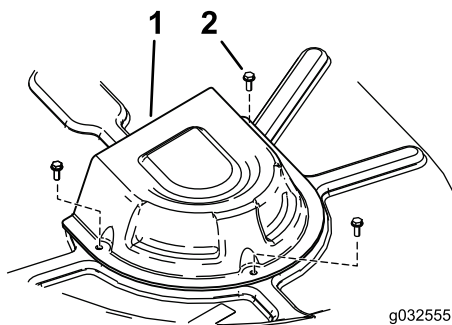

Figure 73
4. Remove the pulley covers (Figure 73).